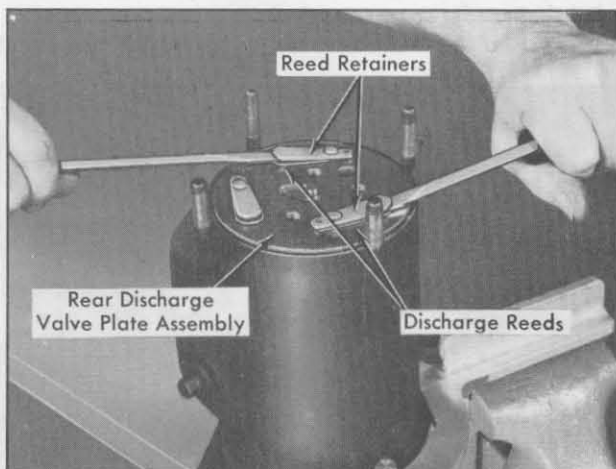

Fig. 1-75 Removing Rear Discharge Valve Parts
11. Carefully remove rear discharge valve plate assembly. Use two small screwdrivers under reed retainers and pry up on assembly, Fig. 1-75. Do not position screwdrivers between reeds and reed seats.